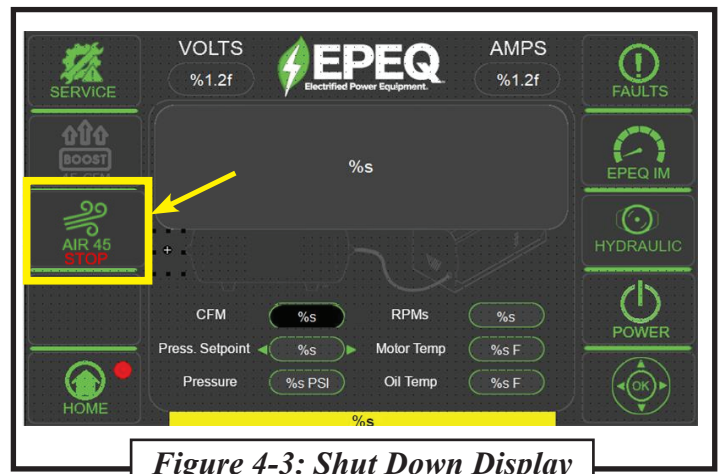

Figure 4-3: Shut Down Display
- Step 2:** Press the “AIR45 STOP” button on the left side of the display. (See “**Figure 4-3: Shut Down Display**”.) A message will appear indicating the unit has entered blow-down.